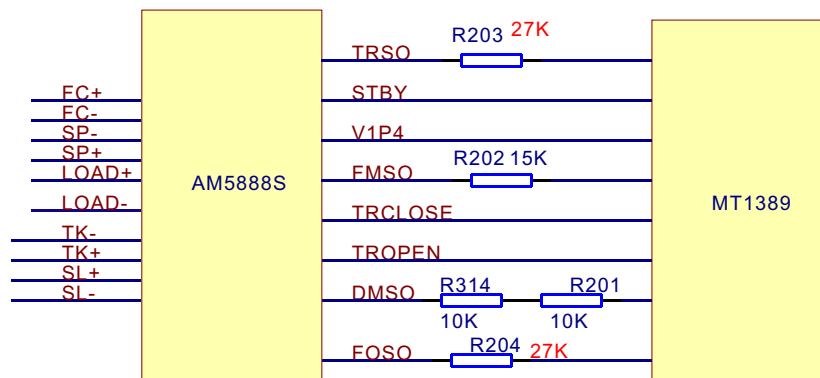

Figure 3.2.5.1 Open/close drive circuit diagram
1. Open/close door drive circuit is shown in the figure 3.2.5.1: